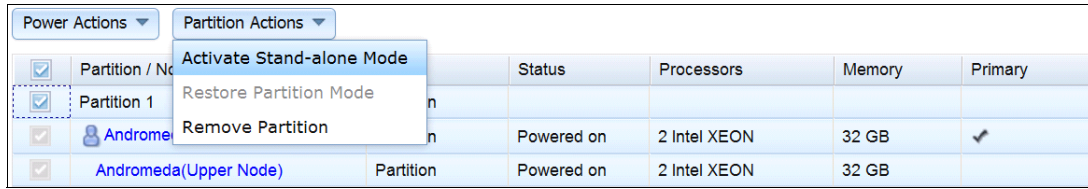

Figure 5-76 Partition options in the scalable complex window via the IMM2
- After the server is turned off, select **Partition Actions** → **Activate Stand-alone Mode**, as shown in Figure 5-76.